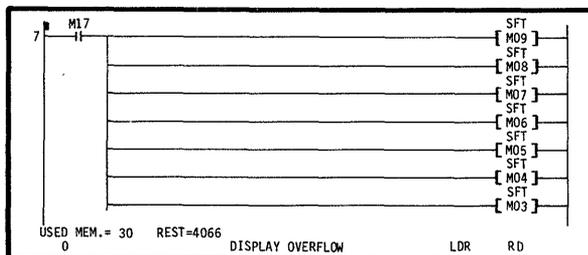
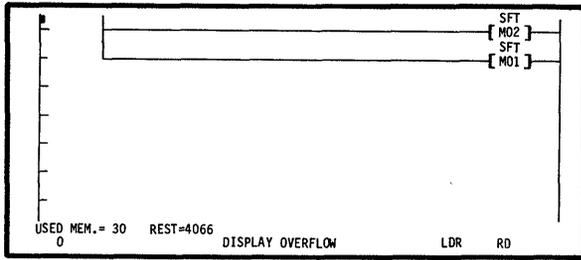

Fig. 7.21
Fig. 7.22
[LDR][RD][SSN][7][GO] → Fig. 7.21 is displayed.
[GO] → Fig. 7.21 is displayed.
[GO] → Fig. 7.22 is displayed.
1. When the number of lines used for one circuit block exceeds seven, "DISPLAY OVERFLOW" is displayed as shown in Fig. 7.21, and in the next screen, only the rest of one circuit block is displayed as shown in Fig. 7.22.